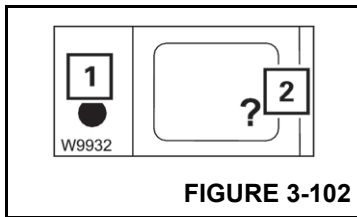

FIGURE 3-102
Press the button (2) (Figure 3-102) once. The button is only active when the lamp (1) flashes or lights up.